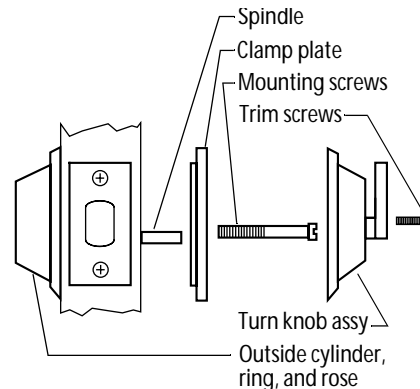

Figure 7 Standard trim mounting
- Secure the cylinder to the door with the clamp plate and mounting screws as shown in Figure 7.